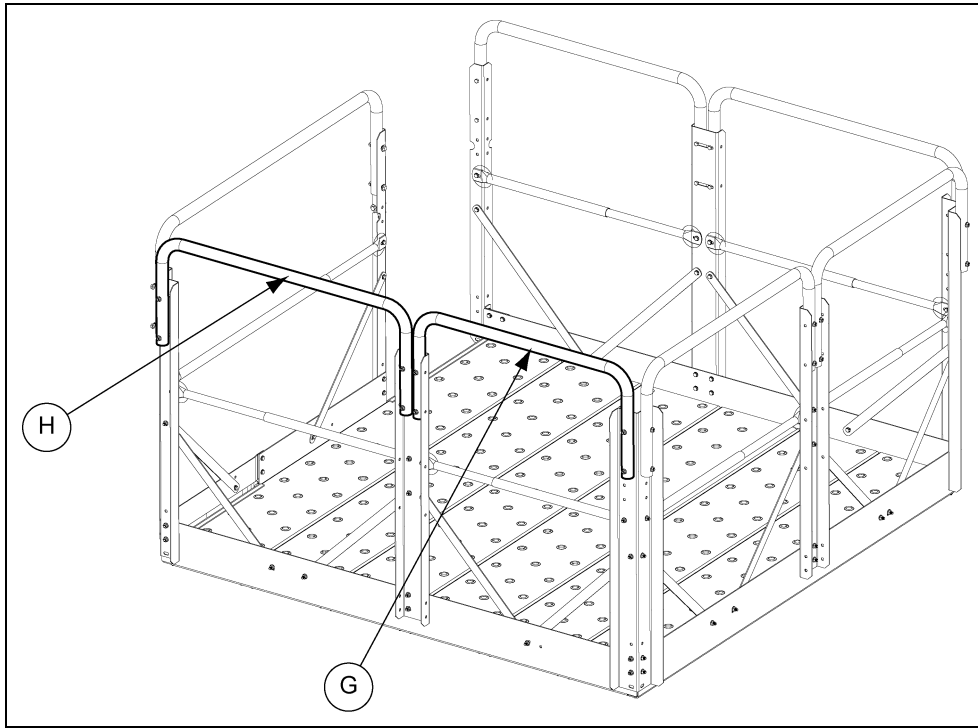

Figure 13L
Attach hatch outside handrail (HP1648HLH) (H) from “W” corner post to platform post and right side handrail (DSP3036H31) (G) from platform post to next “W” corner post using 5/16" bolt (S-7877) (J) and 5/16" flange nut (S-3611) (K). (See Figure 13L.)